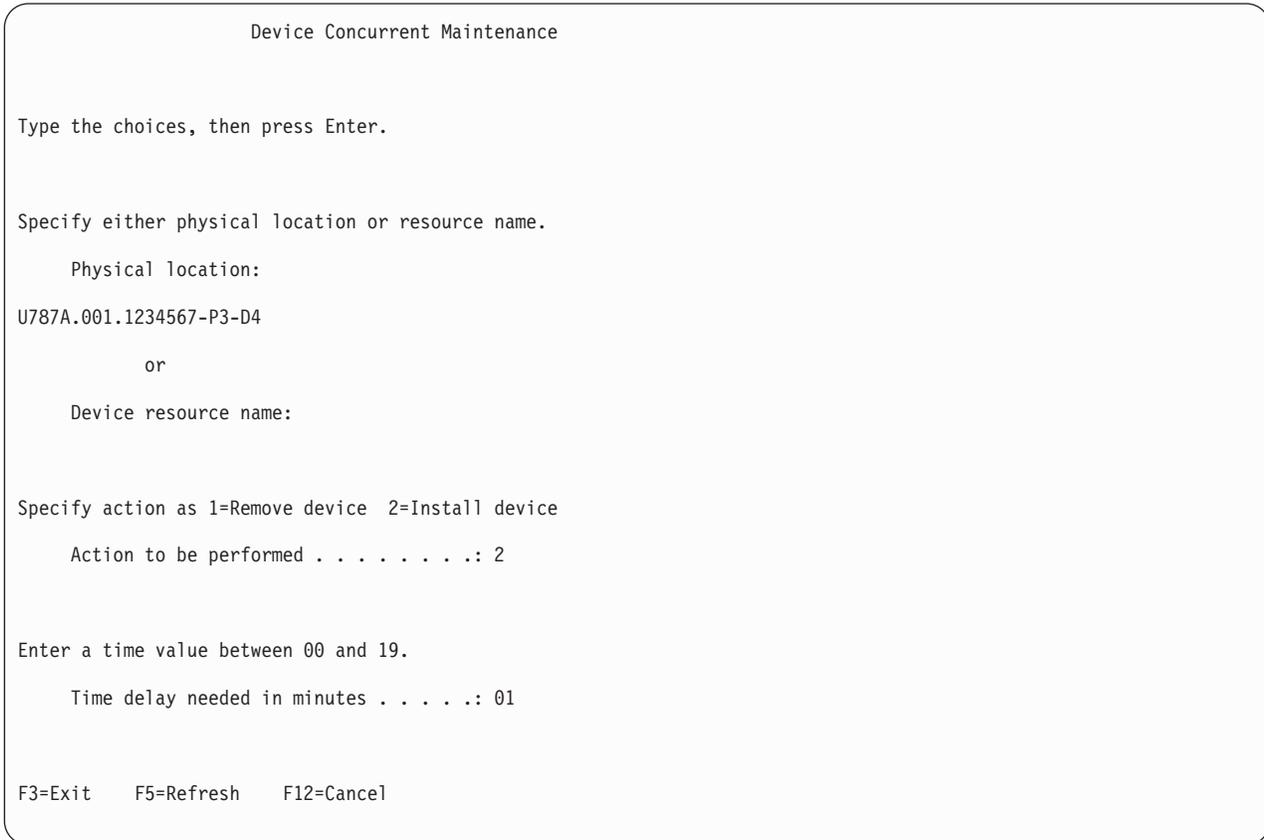

Figure 17. Example Device Concurrent Maintenance display
5. In the **Specify either physical location or resource name** field, type the physical location that you had previously recorded in this procedure, as shown in Figure 17.